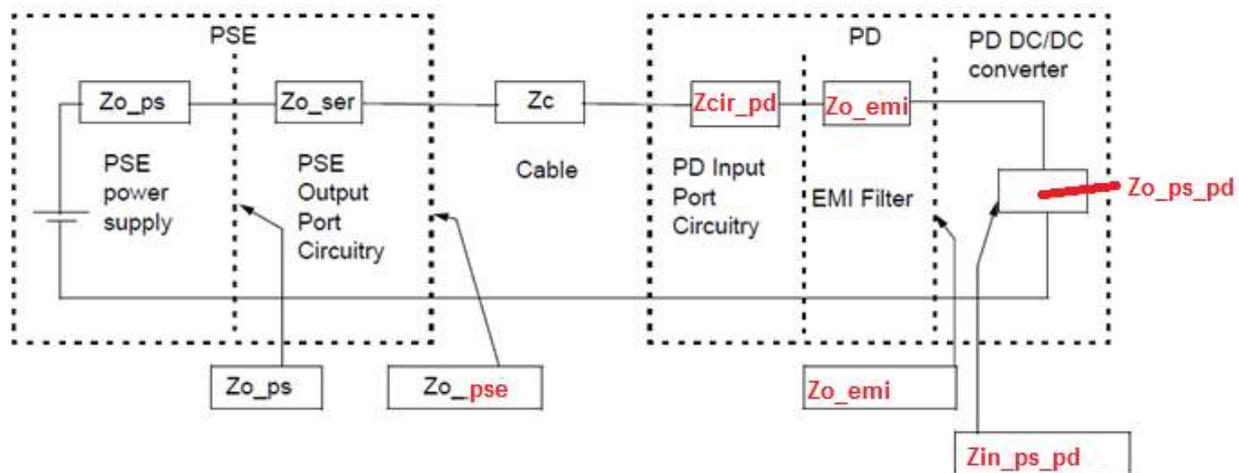

Figure 33A–1—PSE-PD system impedance allocation
In order to prevent potential oscillations between the PSE and PD, the sum of the PSE port output impedance (~~Z_{o_port}~~ Z_{o_pse}), the cable impedance (Z_c), the PD input port circuitry impedance (~~Z_{pd_cir}~~ Z_{cir_pd}) and the PD EMI output filter impedance (Z_{emi}) should be lower than the PD power supply input impedance ($Z_{in_ps_pd}$). All the above impedances are converted to the equivalent series impedance form as described by Figure 33A-1. ~~This sub-clause focuses on the PSE part.~~
See Figure 33A–1 for the PSE-PD system impedance allocation.
2. Update Figure 33A-1 as follows:
~~See Figure 33A–2 for the test setup and Figure 33A–3 for the test requirements.~~
3. Delete Figure 33A-2 (no need to teach how to measure impedance of a port)
4. Delete Figure 33A-3 (the test requirements are in the text)